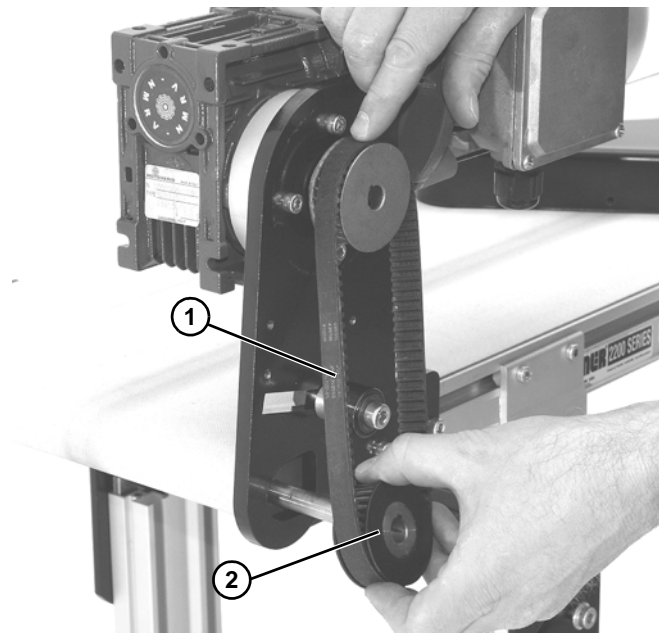

Figure 22
3. Remove timing belt (Figure 22, item 1).
If timing belt does not slide over pulley flange, loosen driven pulley set screws (Figure 22, item 2) and remove pulley with belt ((Figure 22, item 1). For re-installation, see steps 7 and 8 on page 14.